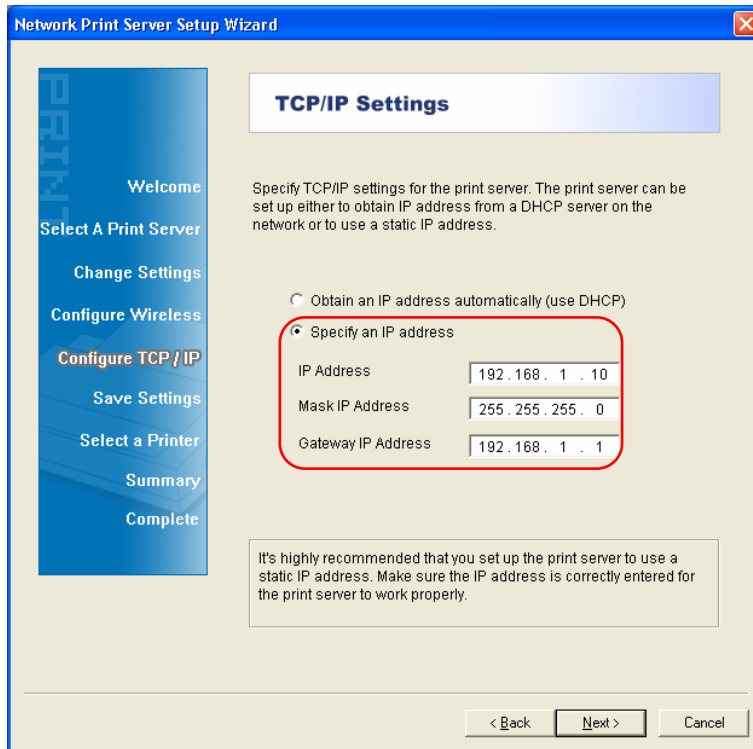

Figure 3-6
- Select **“Yes”** if you want to change the settings. The TL-PS110P is produced with no password. Click **Next** and then appears **“TCP/IP Settings”** screen as shown in Figure 3-6. Proceed with Step 7.
6. On **“TCP/IP Settings”** page shown in Figure 3-6, check the **“Specify an IP address”** radio button, and then fill in the following parameters.